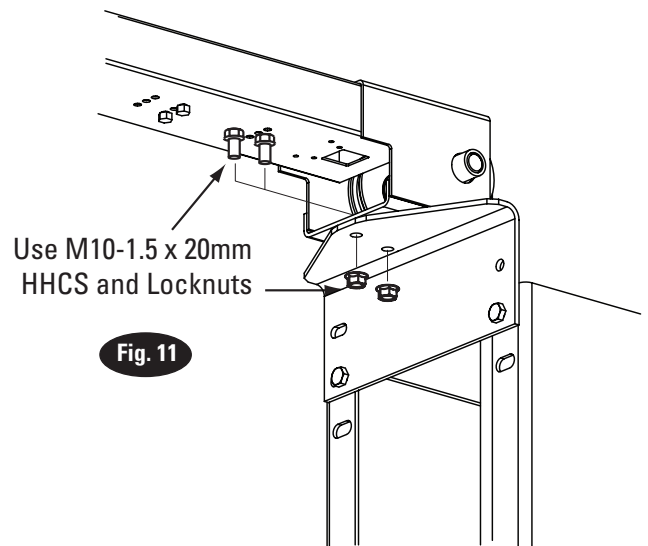

Fig. 11
**11. Overhead Installation:** Install overhead assembly to Mounting Bracket with (2) M10-1.5 x 20mm HHCS, and (2) M10-1.5 Flanged Locknut Fig. 11. Tighten bolts at center of overhead assembly.